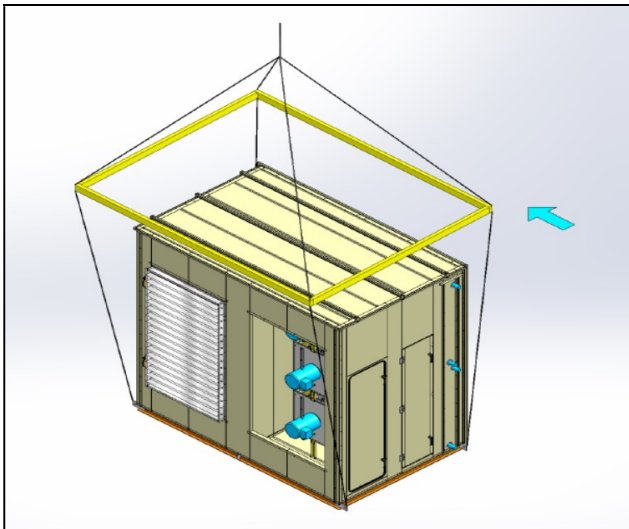

Figure 3: Utilization of the Spreader Bars
- It is highly recommended to use spreader bars (**Figure 3**) to keep rigging away from the chains or/and sling from the unit cabinetry to avoid damages of the unit roof perimeters/gutters, and the paint. It is the responsibility of the contractor to select the proper equipment for rigging and lifting procedure. Improper technics for lifting can damage the equipment and/or cause injury or death.